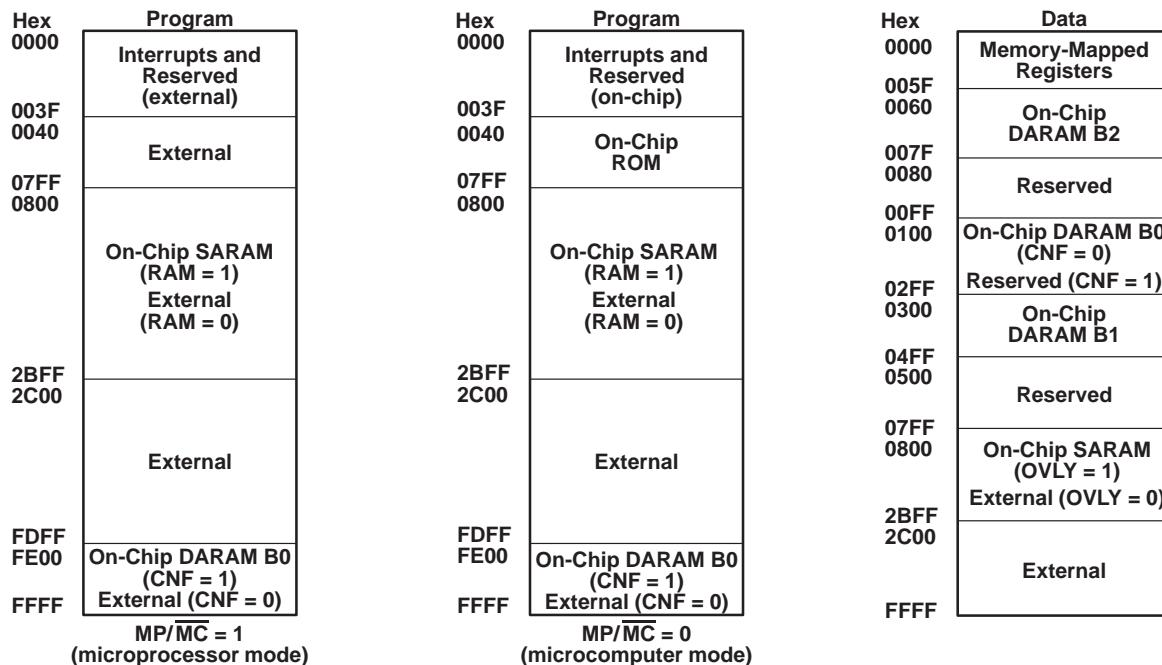

Figure 1. TMS320C50 and TMS320LC50 Memory Map
The 'C5x implements three separate address spaces for program memory, data memory, and I/O. Each space accommodates a total of 64K 16-bit words (see Figures 1 through 7). Within the 64K words of data space, the 256 to 32K words at the top of the address range can be defined to be external global memory in increments of powers of two, as specified by the contents of the global memory allocation register (GREG). Access to global memory is arbitrated using the global memory bus request (BR) signal.